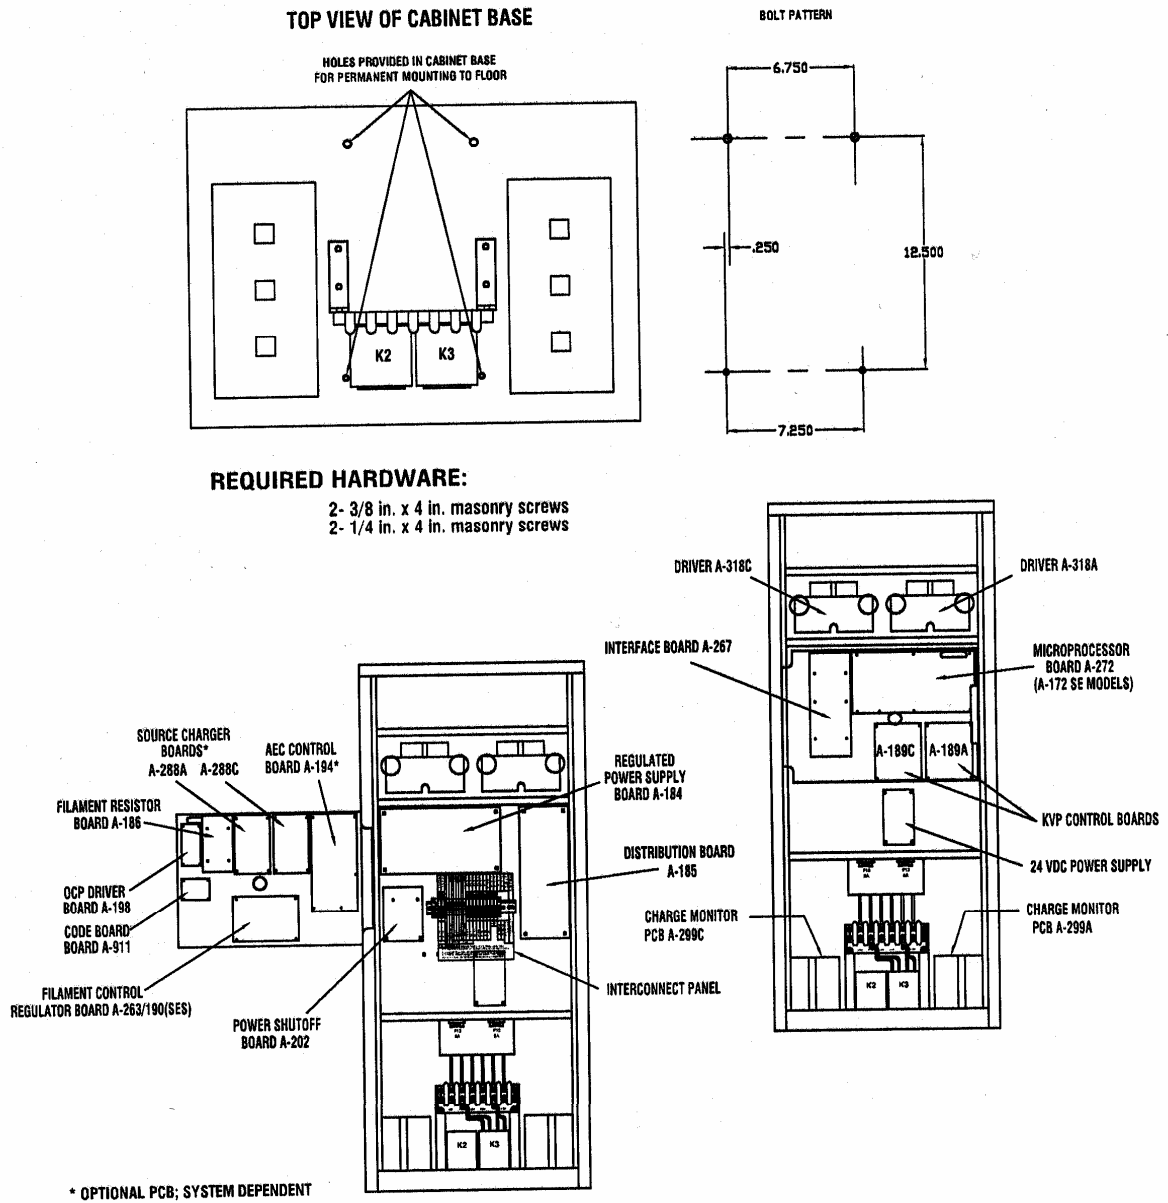

Figure 1 Generator Cabinet
- Power cabinet with high voltage transformers. Anchor to floor with four M10 (3/8) bolts (not supplied by HCMI, Inc.). (See Figure 1).